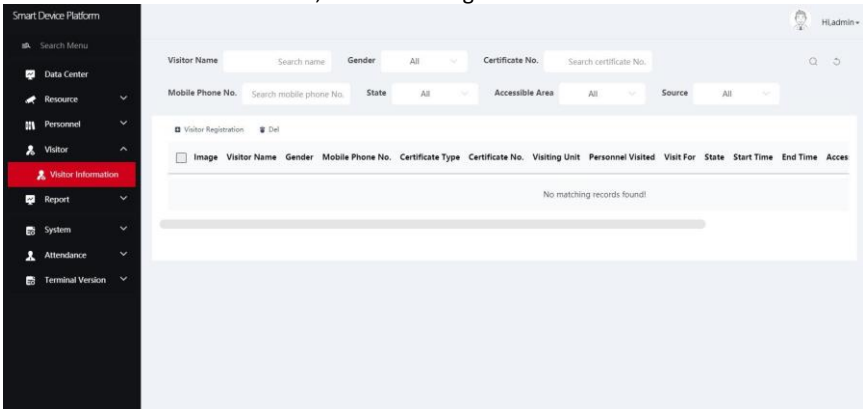

Figure 5-53
Step 1: In the smart device platform interface, click "Visitor→Visitor Information" to enter the visitor information interface, as shown in Figure 5-53 below.